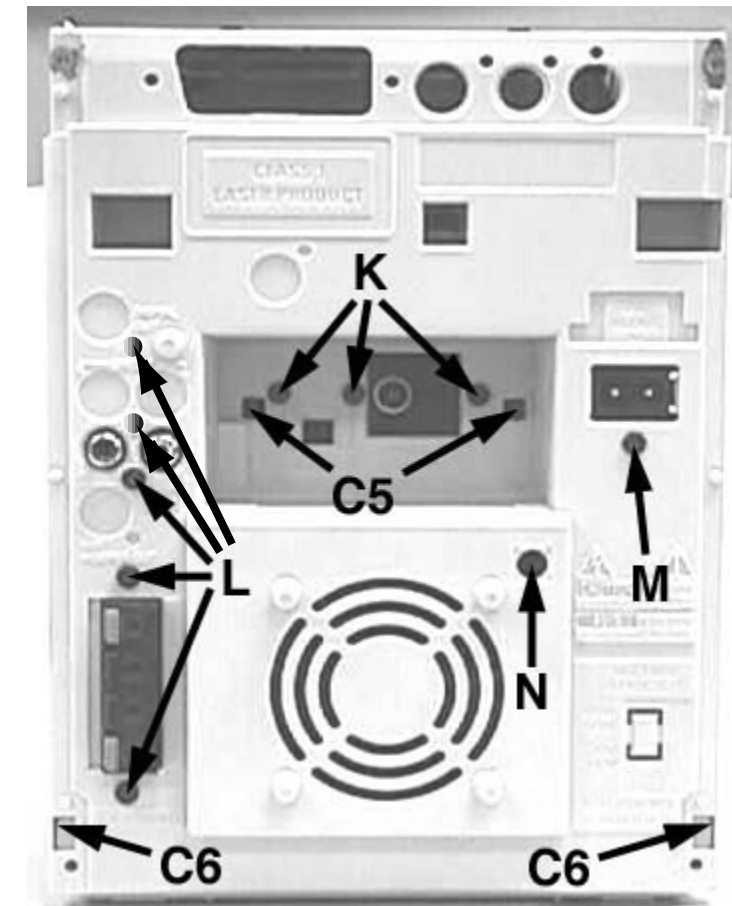

Figure 8
- 1) Loosen 3 screws K and 2 catches C5 (see Figure 8) to remove the Tuner Board assembly.
- 2) Loosen 5 screws L (see Figure 8) to free the Main Board.
- 3) Loosen 1 screw M (see Figure 8) to free the Mains Socket Bracket.
- 4) Loosen 1 screw N and 2 catches C6 (see Figure 8) to free the Panel Rear by sliding it out towards the rear.